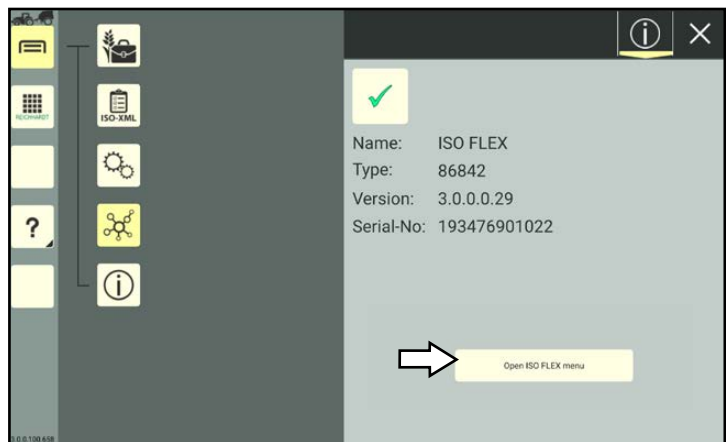

Fig. 160: ISO FLEX device information
6. The ISO FLEX device information is then displayed (see Fig. 160).